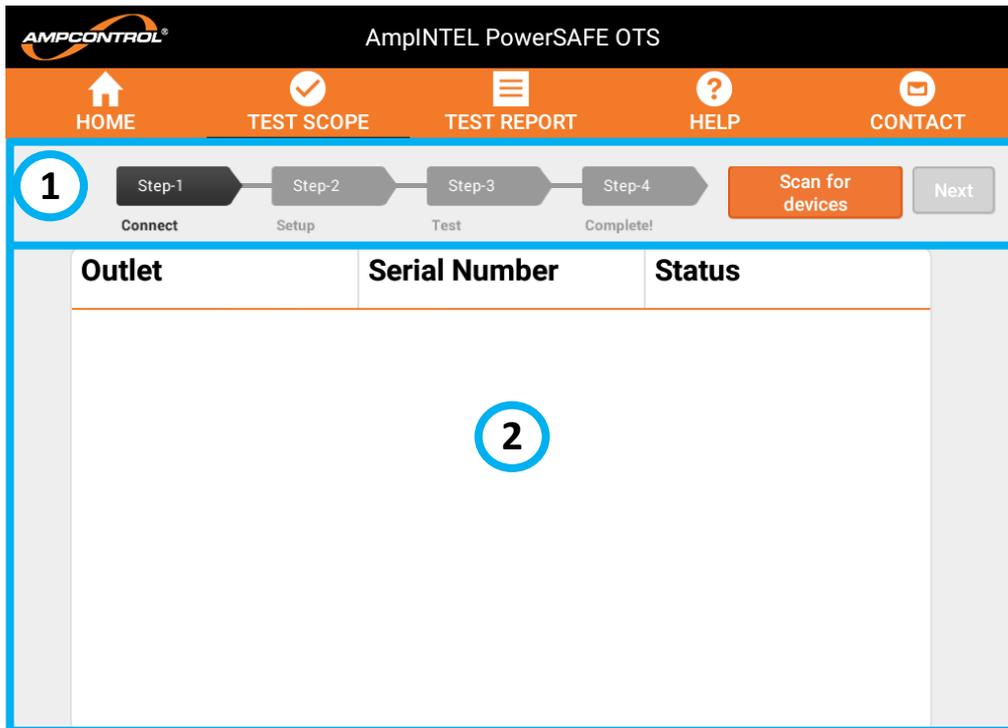

Figure 6-3: Test Scope Page
The test scope page (Figure 6-3) allows the user to connect to an available OTS and to perform the protection function test/s. The OTS testing procedure is broken into 4 procedural steps. The status of a test is outlined by the progress of item 1 in Figure 6-3. Item 2 of Figure 6-3 displays the status and information relevant to the current test process. These features are explained in Section 7.